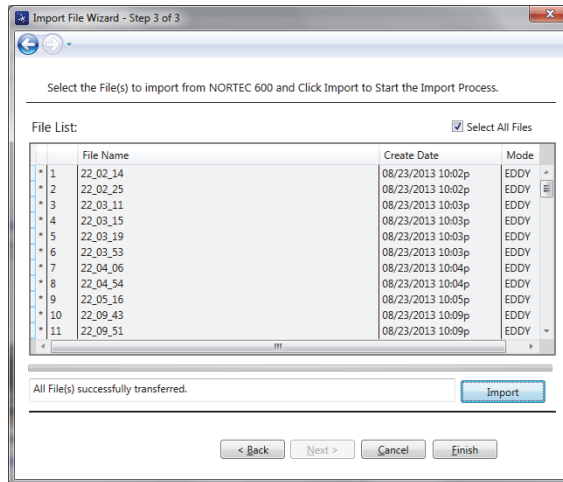

Figure 6-5 The Import File Wizard transfer process completion
- After all files have been transferred, click **Finish** to exit the Wizard (see Figure 6-5 on page 306)